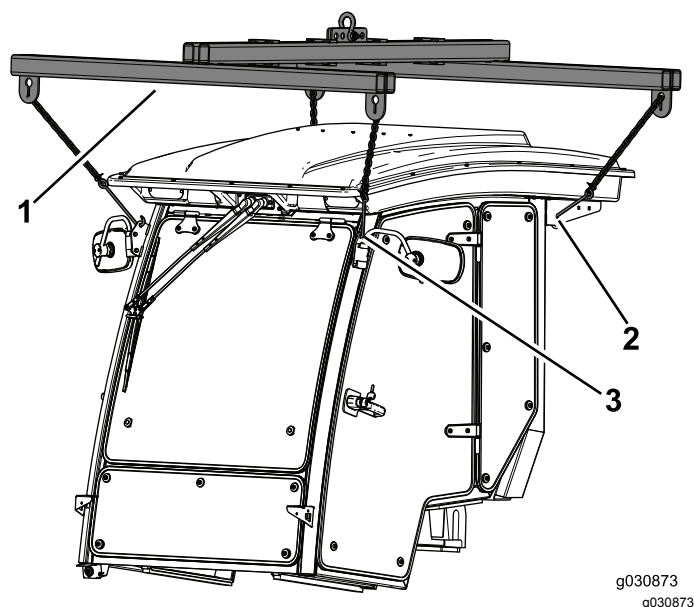

Figure 64
1. Use the 4 lift points to support the cab above the machine (Figure 64).